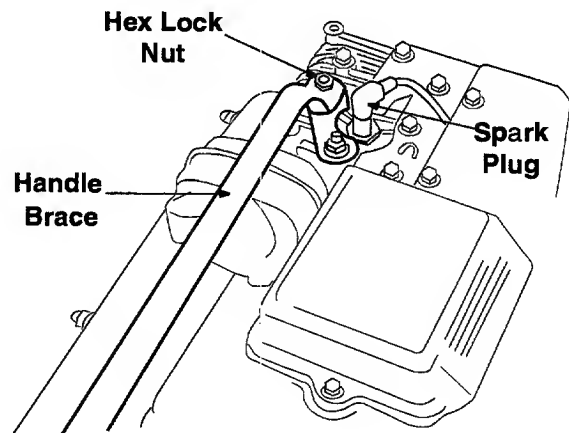

Figure 4
4. Remove the hex lock nut from on top of the engine, just to the left of the spark plug. See Figure 4. Attach the curved end of the handle brace to the top of the engine, using hex lock nut just removed. Tighten securely.